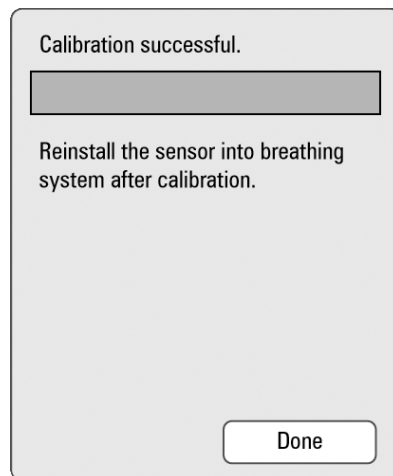

FIGURE 2-8 Oxygen Sensor Calibration Successful
- **If the calibration is successful**, the screen shown in FIGURE 2-8 will be displayed, instructing the user to reinstall the oxygen sensor into the breathing system. Select the **Done** button to complete the process.